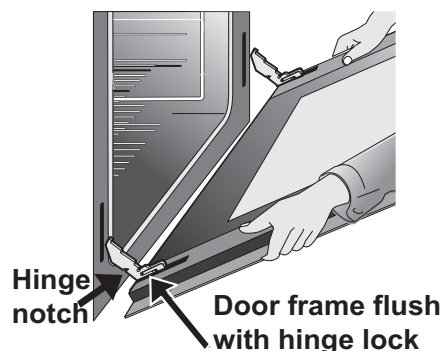

Figure 26: Setting hinges into hinge notches
4. Pull the bottom of the door toward you while rotating the top of the door toward the appliance to completely disengage the hinge levers (Figure 26).
1. Firmly grasp both sides of oven door along the door sides. Do not use the oven door handle (Figure 26).
2. Hold the oven door at the same angle as the removal position. Carefully insert the hinge levers into the oven frame until you feel the hinge levers are seated into the hinge notches. The hinge arms must be fully seated into the hinge notches before the oven door can be fully opened. (Figure 26).